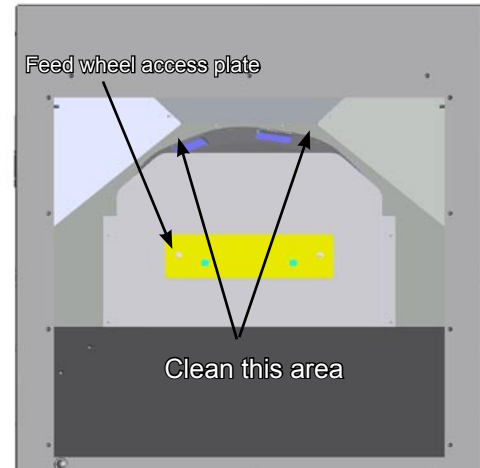

FIGURE 30
4. Remove the feed wheel access plate and vacuum around the feed wheel. See Figure 30. Replace plate after cleaning.